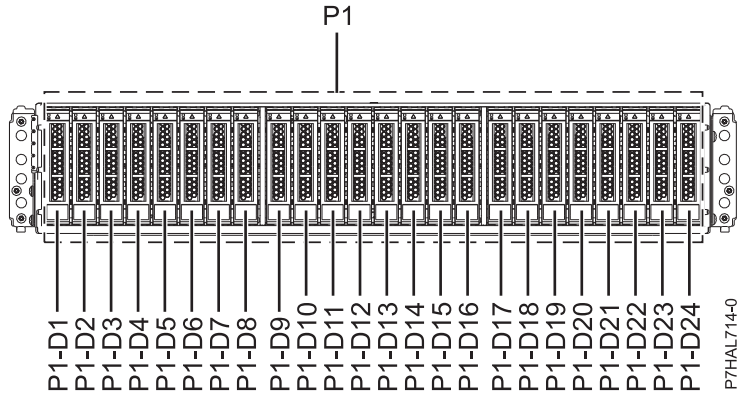
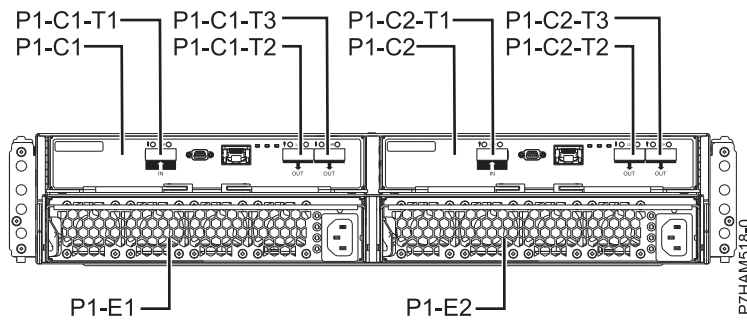

Figure 26. Front view of the 5887 disk drive enclosure showing the disk drive locations
Figure 27. Rear view of the 5887 disk drive enclosure
3. Identify the part and the enclosure that you want to service. The disk drive and SSD slots are located in the front of the enclosure. Figure 26 and Figure 27 show the front view and rear view of the 5887 disk drive enclosure and the disk drive locations in the 5887 disk drive enclosure.